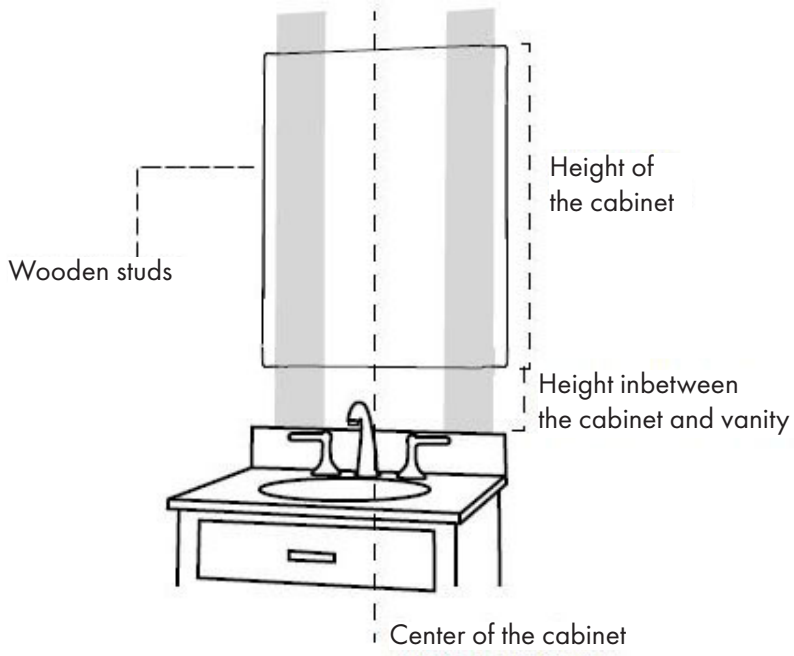

Fig. 1
1. Center your cabinet in desired location on the wall. For secure application, locate the studs within the wall to mount the cabinet properly. If you cannot locate the studs, you will need to purchase additional hardware to secure your cabinet to the wall and/or open the wall to install additional bracing. (Figure 1)
3. Allow for 1" of clearance on height elevation above any obstructions as illustrated in Figure 1. \*Note the door will exceed the cabinet body by 1" on top and bottom of most cabinets. Refer to technical data for exact sizes.